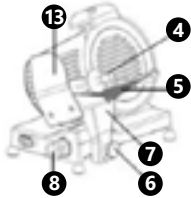

Fig. 5
- Unplug the device before the cleaning operation (remove the plug!) and check whether the slice thickness adjustment (8) is set to "0".
- Move the carriage (7) towards the slice thickness adjustment (8) (fig. 5).
- In order to clean it, remove the carriage (7) with the pusher handle (4). To do this, loosen the carriage adjustment (6), rotating it counter-clockwise, and remove the carriage itself (7) (fig. 5).
- Wash the carriage (7) with cover (13), pusher (4) and carriage tray (5) using warm water, soft cloth and a neutral cleaning agent. Rinse with clean water to remove the cleaning agent residuals.